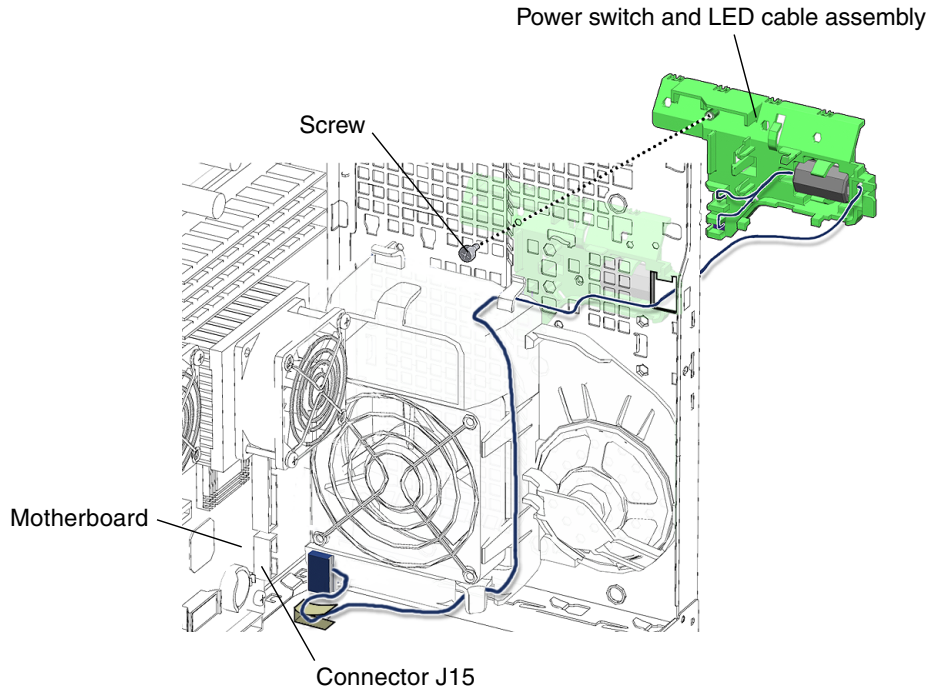

FIGURE 14-23 Routing the Power Switch and LED Cable
6. Install the screw (FIGURE 14-23).